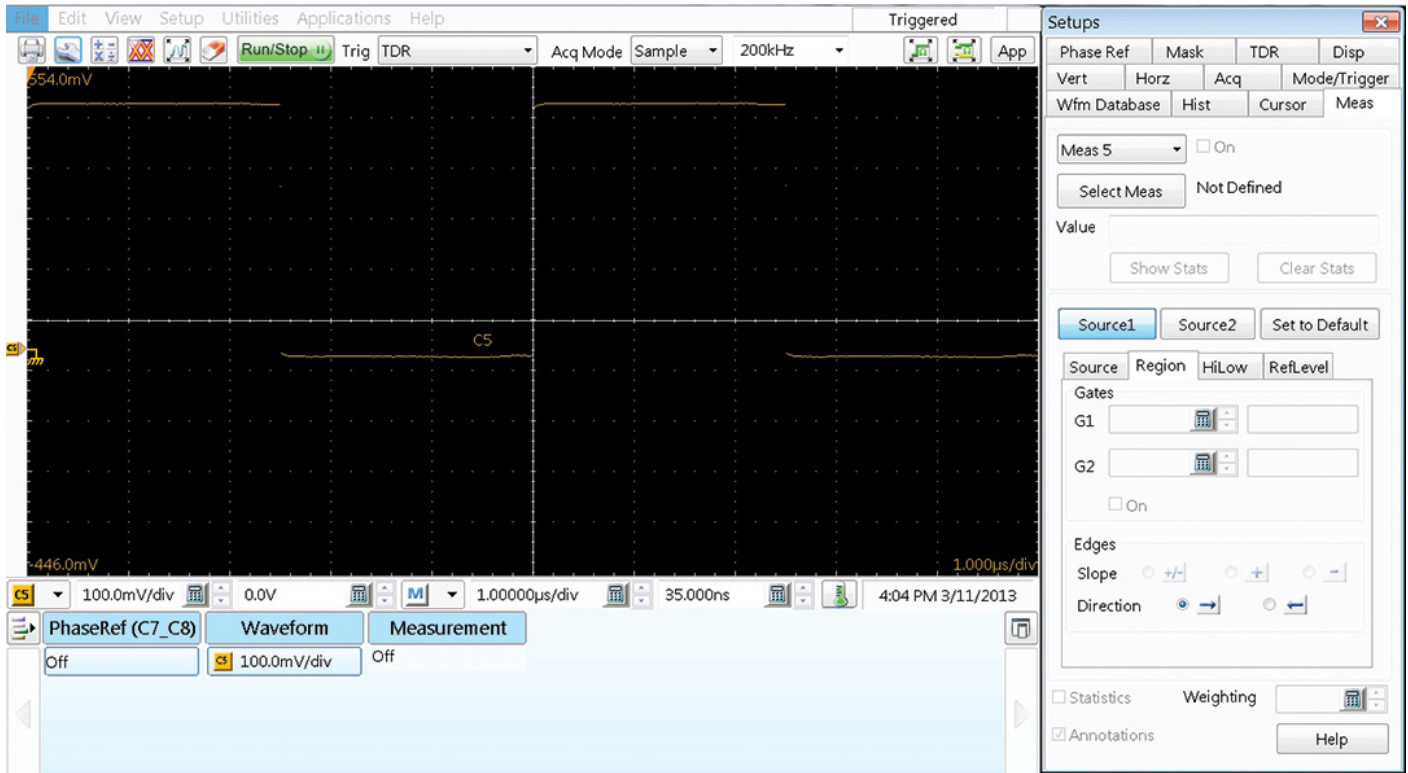

Figure 7. The TDR Clock OUT signal via attenuator.
- The screen should show a square wave, as in Figure 7.